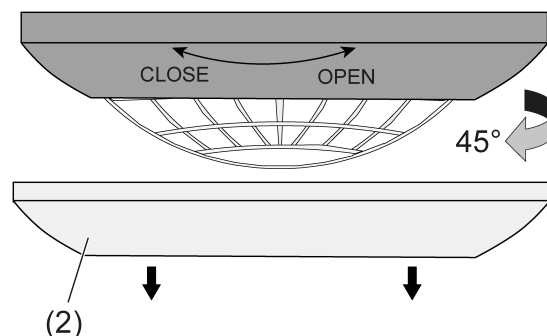

Figure 2: Disconnect sensor from base plate
- Pull off decor ring (2) (Figure 2).
- Turn the sensor by approx. 45° in the **OPEN** direction to disconnect it from the base plate (Figure 2).
- Fasten the base plate to the ceiling using screws (1).
- Pull off decor ring (2).